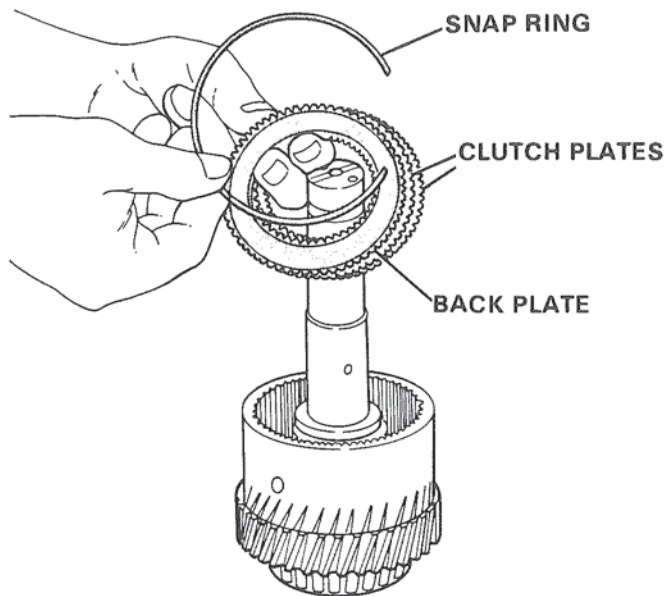

Figure 27. Removing Snap Ring, Back Plate, and Clutch Plates.
5. Remove the back plate retaining snap ring, and remove the back plate, the faced and steel clutch plates from the transfer gear and clutch shaft. Figure 27.